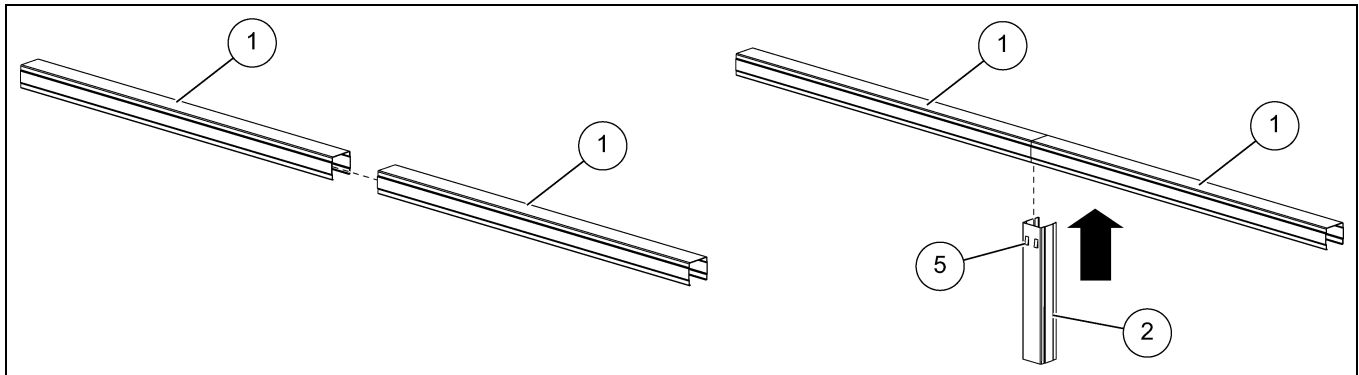

Figure 1 Installing the Monorail Leg
1. Insert the monorail leg (2) vertically at the joint between the ends of the monorails (1), centering the leg (2) on the splice as shown in Figure 1.